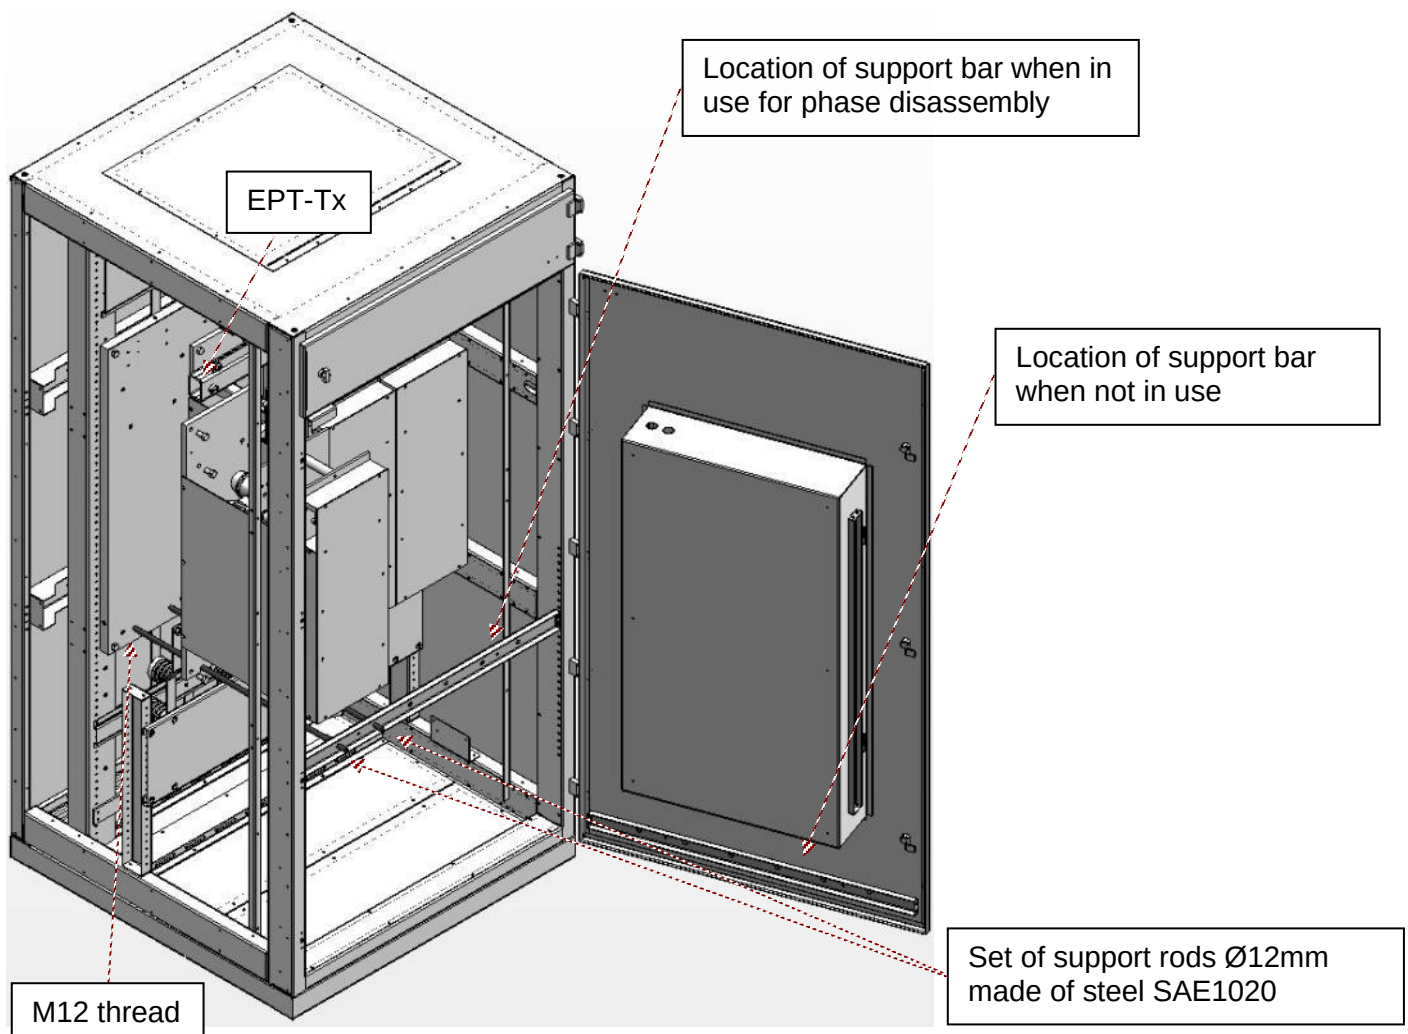

Figure 16 – MV-TPS up to 6.6kV - Phase Disassembly Accessories (optional)
- (1) Do not mount the MV-TPS near heat sources.
- (2) Ensure the cabinet's internal temperature does not exceed 50°C.
- (3) Protect the MV-TPS from dust and corrosive environments.
- (4) To perform a low voltage test, apply the following provisions:
- b. To facilitate phase disassembly, observe the following assembly precautions (Refer to *Figure 16*) for: